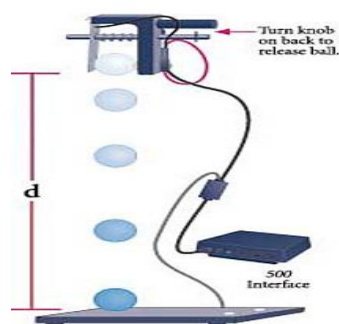

Figure 13.1. Freefall system setup
- Arrange the apparatus as shown in figure 13.1.